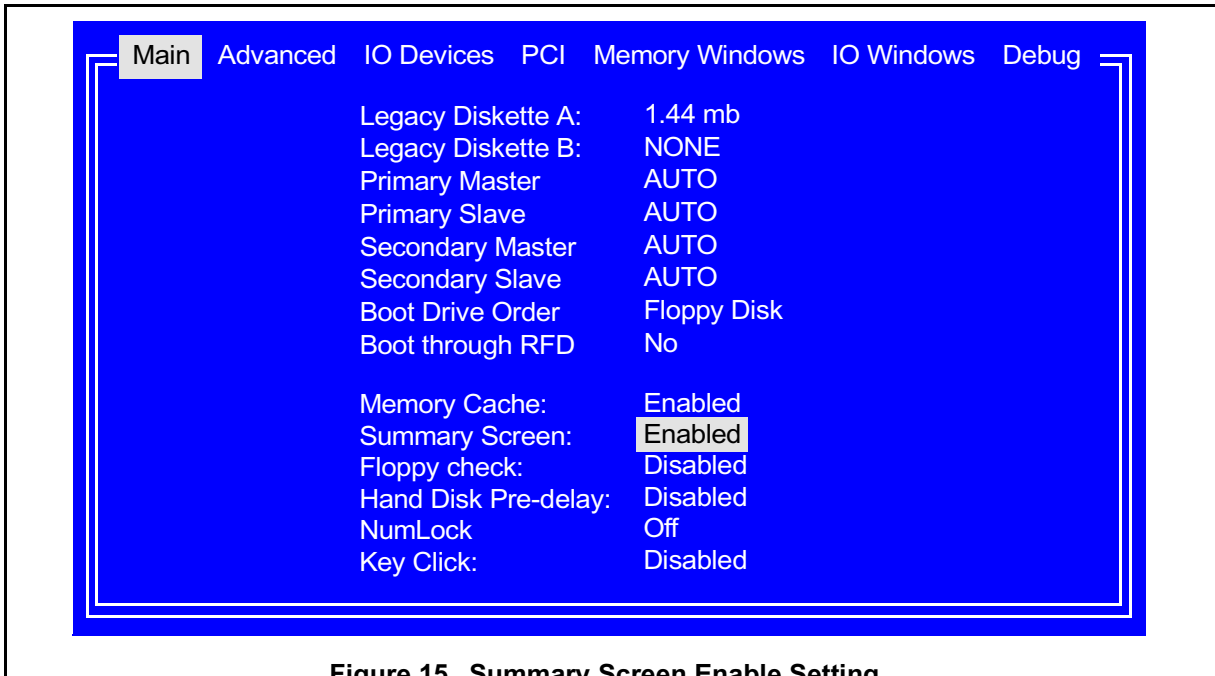

Figure 15. Summary Screen Enable Setting
- b. Use the right and left arrow keys to toggle the Enabled or Disabled selection. See Figure 15.